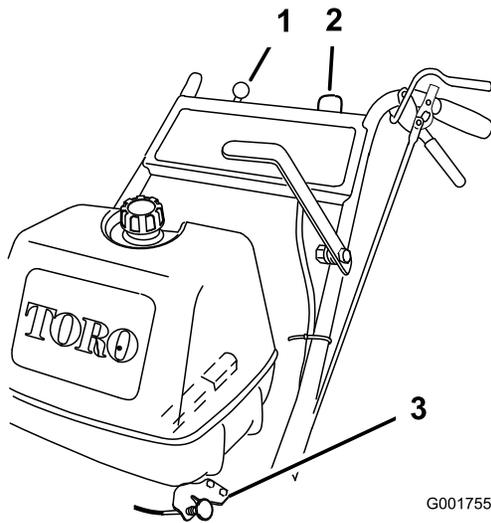

Figure 8
- Turn the ignition key to the **run** position (Figure 8).
- Pull the choke knob if the engine is cold (Figure 8).
- Move the throttle lever to the slow position (Figure 8).